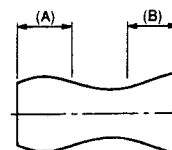

Fig. 7-3-6
4. If the (A) section in Fig. 7-3-6 does not meet the specifications, adjust the S guide roller in up or down direction.
5. If the (B) section in Fig. 7-3-6 does not meet the specifications, adjust T guide roller in up or down direction.